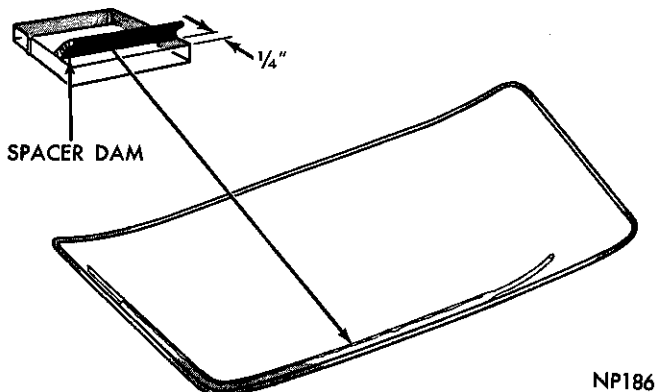

Fig. 4—Spacer Dam Installation
(4) Install spacer dam 1/4 inch from edge and positioned so it leans toward edge on glass inner surface (Fig. 4).
(5) Attach suction cups to glass outer surface and position glass in opening.
(6) Inspect relationship of glass to fence completely around opening. The spacer dam should fold under and create a cushion for the glass to rest on.